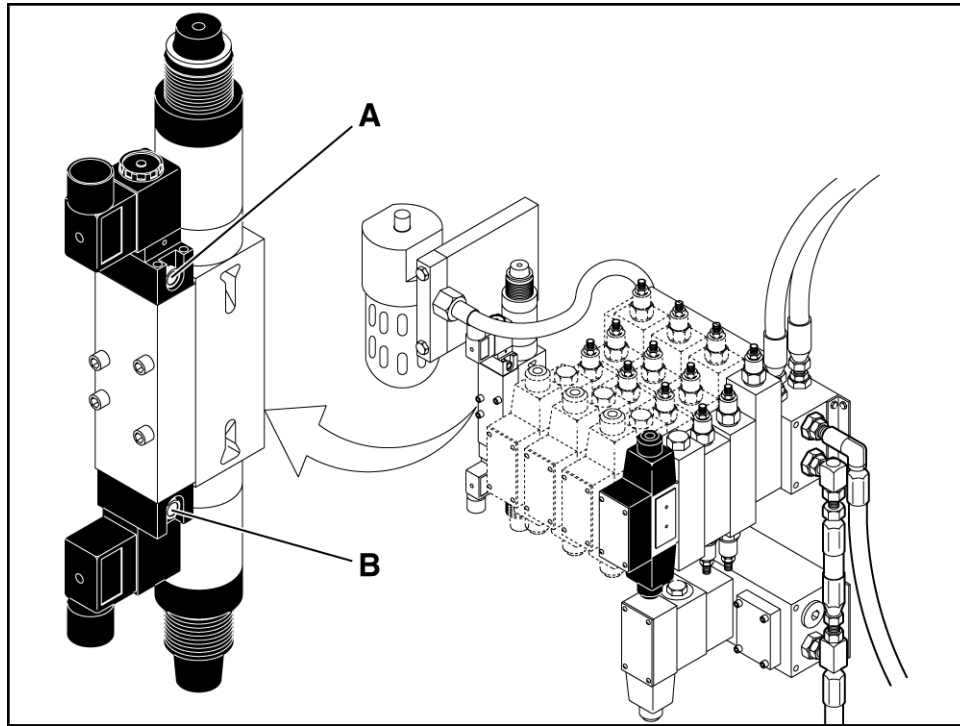
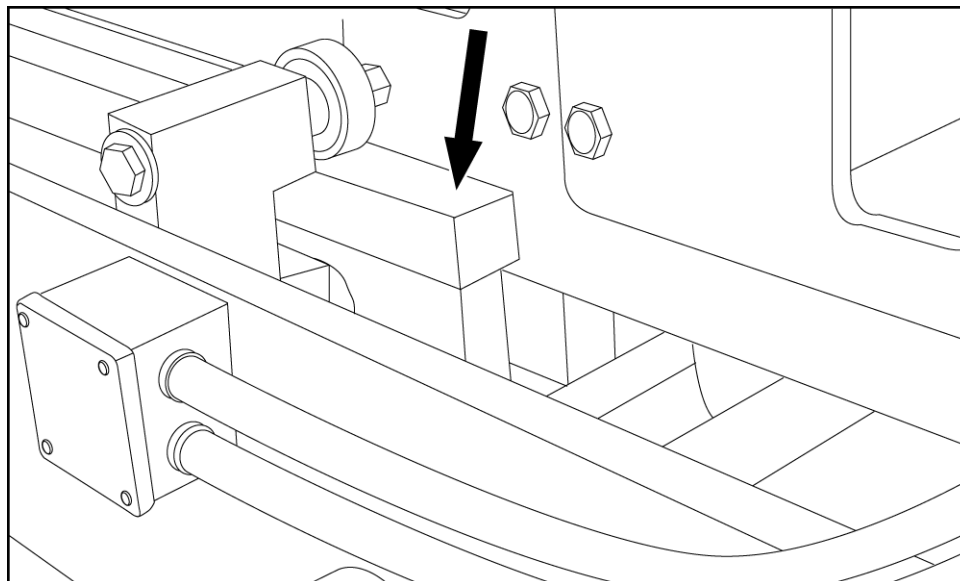
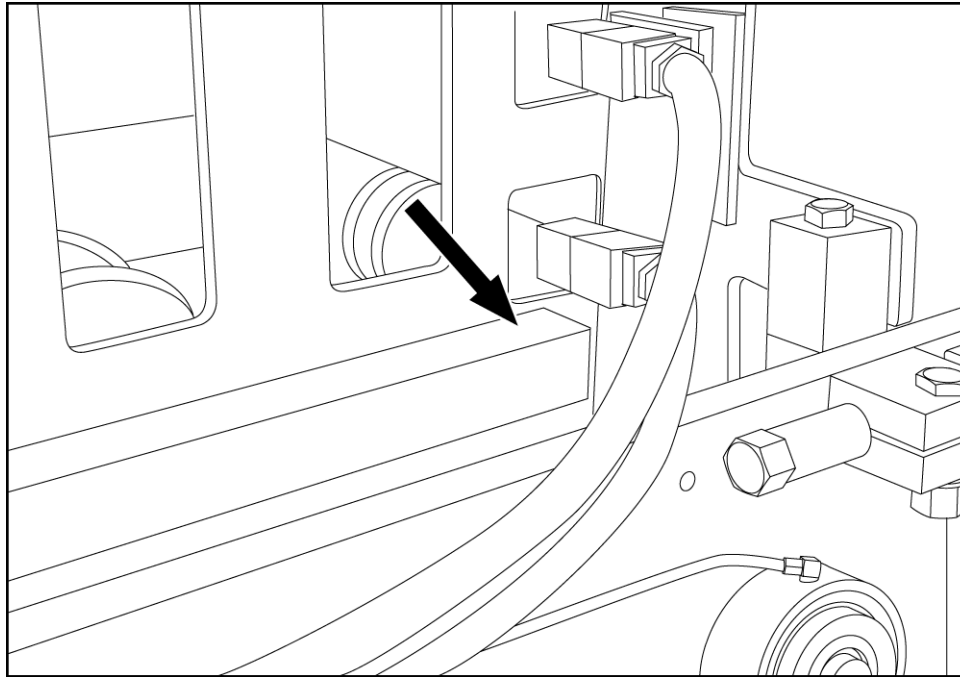
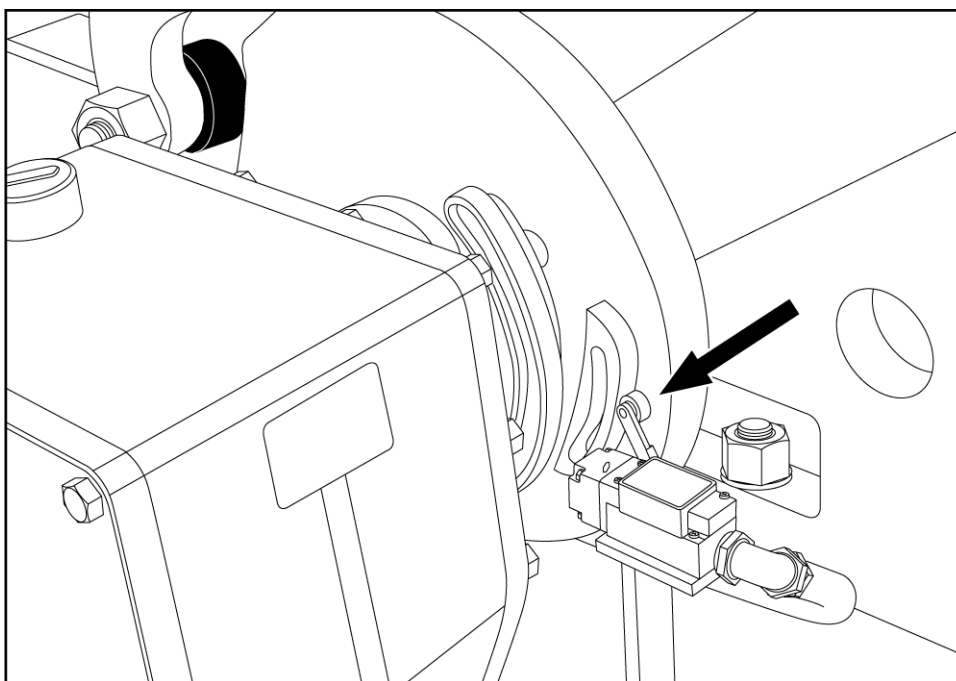

Figure 6.7 POSITIONING BLOCK MOVING BARS
Figure 6.8 EXTREME FORWARD POSITION OF BLOCK MOVING BARS
Figure 6.11 EXTREME BACK POSITION OF BLOCK MOVING BARS
Figure 6.19 LIMIT SWITCH ACTUATOR
- 6.2.2 Use the two push buttons on valve (figure 6.7) to jog block delivery bar motor until block delivery bars are full forward (see figure 6.8), both link pins and gear box shaft are in line. Top button(A) jogs bars forward and bottom button(B) will jog bars backward.
6.2.5 Use the two push buttons on valve (figure 6.7) to jog block delivery bar motor until arms are fully back (see figure 6.11). In this position, the pins in the link will be aligned with the gearbox shaft.
6.2.10 Adjust the actuator for LS-6 to trip the switch by 2" [51mm] (see figure 6.19).
- 6.2.15 Run machine and, at the moment where the pallet is beginning to be lifted off the chain, make sure the pallet is centered on the cradle. If pallet is not in center of cradle, adjust chains (refer to 6.2.8). When delivery arms come all the way back (see figure 6.11), drive link to cam must be in line with gear box shaft; if not, adjust actuator for LS-6 (see figure 6.19).